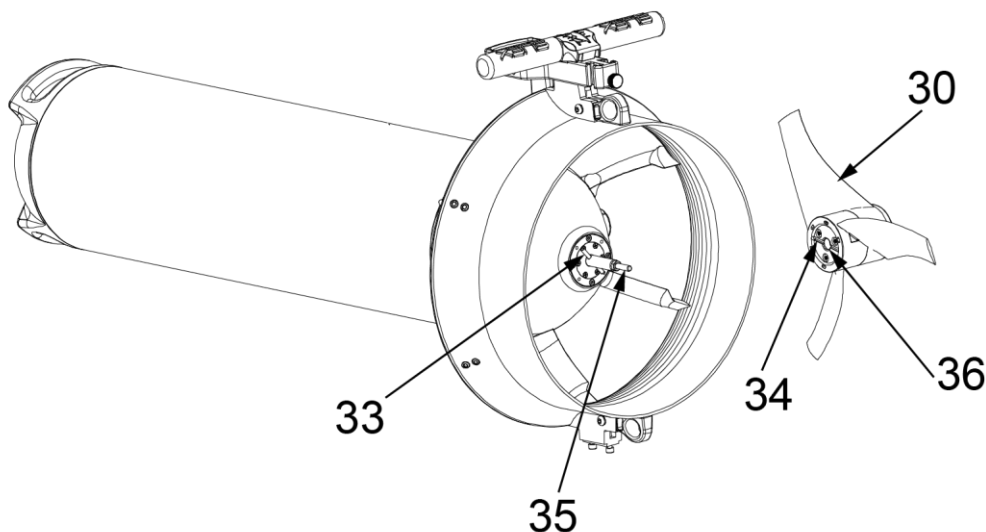

Fig 35 - Propeller insertion
Insert the propeller (hole 36 - **Fig 35 - on p. 42**) in motor shaft of the Scooter (35), turn the propeller (clockwise) until the pin (33) matches the seat (34) propeller. When you hear a click, the propeller will stop turning. Continue by turning (CLOCKWISE) the switch (6 - Fig.1) with the finger only, WITHOUT FORCING.